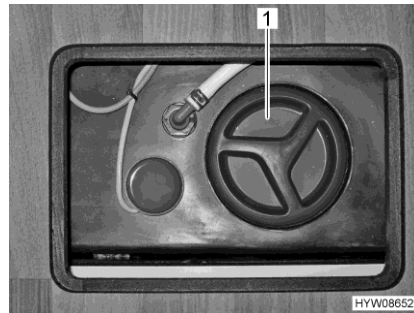

Fig. 176 Cleaning opening (waste water tank)
- Open the cleaning opening (Fig. 176,1) on the waste water tank and the drain cock.